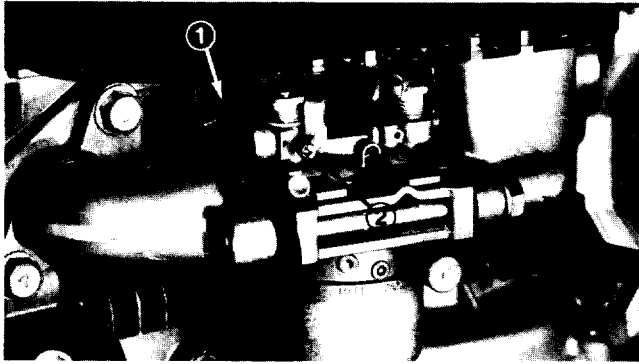

Figure 16
1. Idle Mixture Screw (Fig. 16) — Close screw by gently rotating it clockwise.
2. Rotate — open — the screw $1\frac{1}{8}$ turns counter-clockwise (Fig. 16).